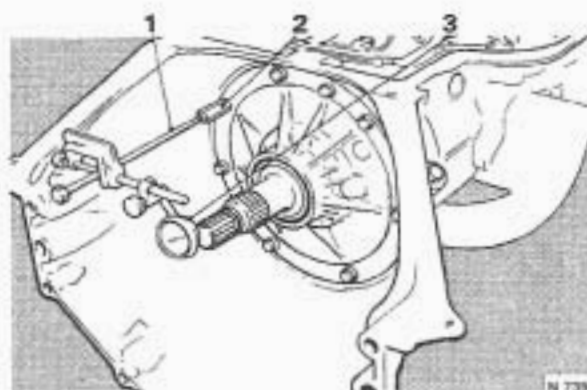

FIG. T223 CHECKING THE FRONT UNIT END FLOAT
10. Pull the turbine shaft forward as shown in Figure T223.